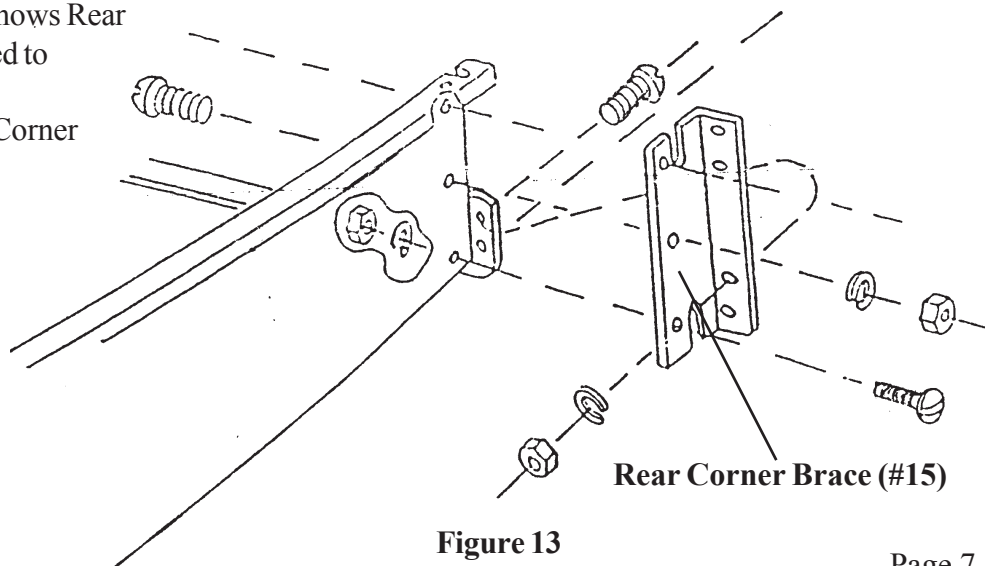

Figure 13
Step 13: Secure each Side Panel (#14) by bolting a Rear Corner Brace (#15) to the outside of the Side Panel. Use 5 Bolts (#21), 5 Washers (#23) and 5 Nuts (#24) to secure each Side Panel. Figure 13 shows Rear Corner Brace being assembled to left Side Panel. Follow same procedure to assemble Rear Corner Brace to right Side Panel.